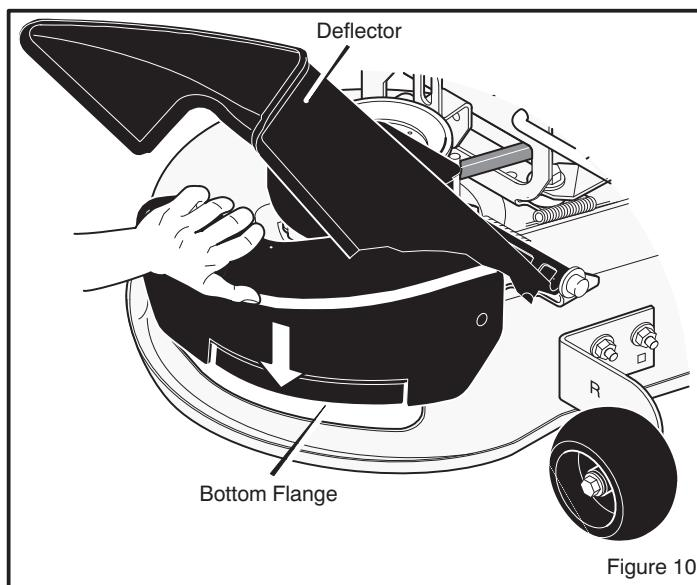

Figure 10
2. Lift the **mulcher plate** away from the mower housing (Figure 10).
1. Raise the **deflector**. Mount the bottom flange of the **mulcher plate** to the mower housing (Figure 10).